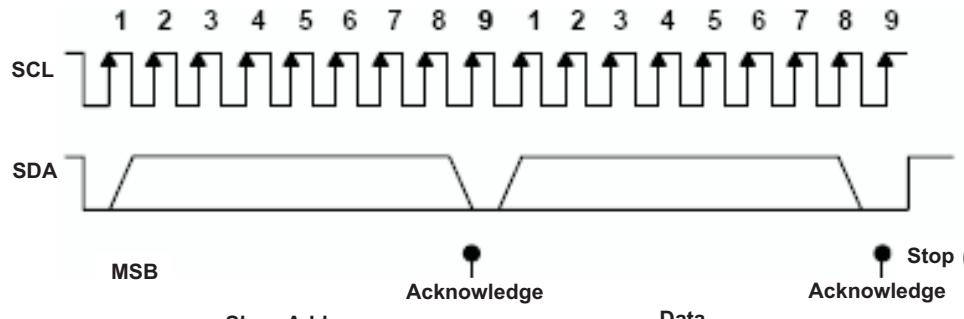

Figure 34. I²C Address and Data Cycles
- The master generates further SCL cycles to either *transmit* data to the slave (R/W bit 0) or receive data from the slave (R/W bit 1). In either case, the *receiver* needs to acknowledge the data sent by the *transmitter*. So an acknowledge signal can either be generated by the master or by the slave, depending on which one is the receiver. The 9-bit valid data sequences consisting of 8-bit data and 1-bit acknowledge can continue as long as necessary (see Figure 34).